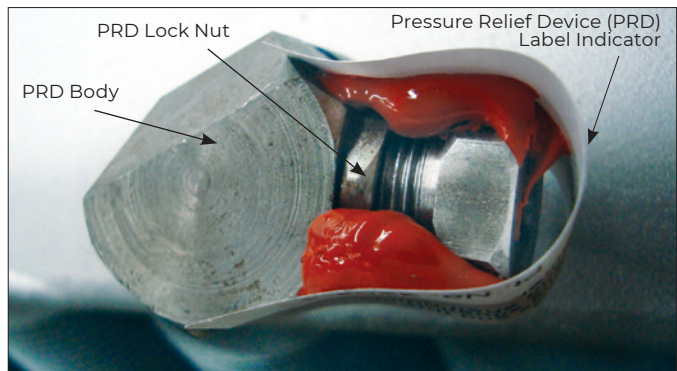

Figure 1
See Figure 1, page 5 and refer to A.3 Annual, page 4, for further instructions.
9. Venting pressure of the Pressure Relief Device (PRD) is factory set. Do not tamper with lock nut. (See Figure 1, page 5.)